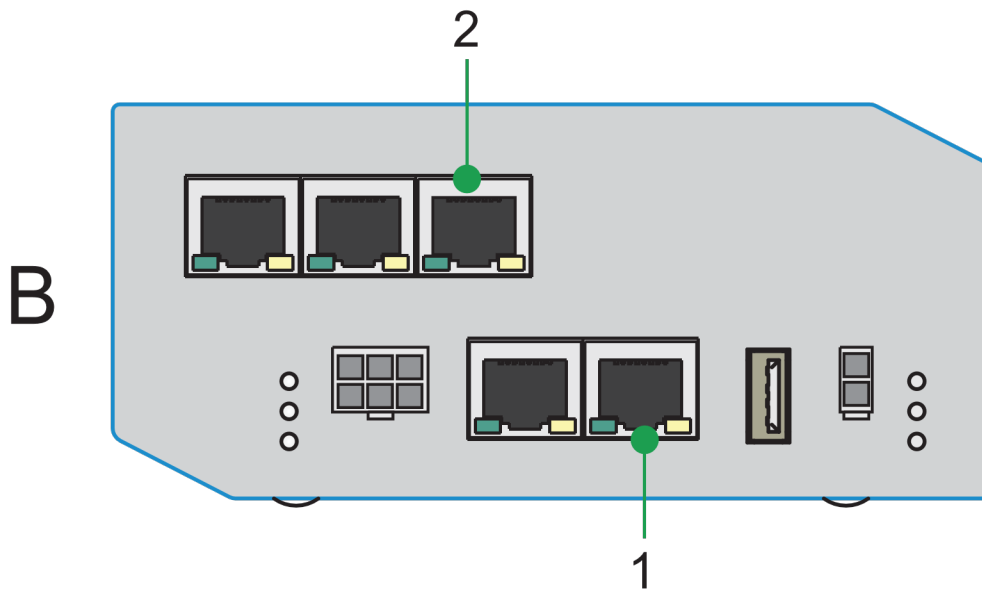

Fig. 24 Connecting the VPN-router, case B
B: Stem devices (2) and customers router(1) in two different networks (refer to Fig. 24 below).